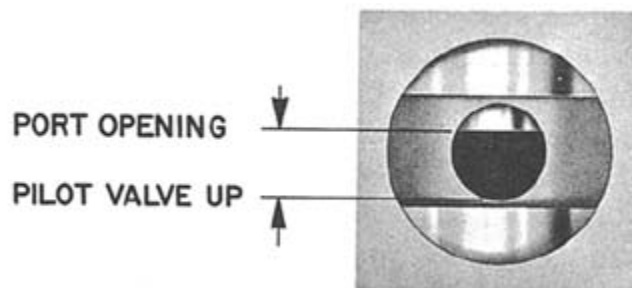

Figure 4-7. Port Opening, Pilot Valve Plunger Up
- c. Holding the pilot-valve plunger down against the flyweight toes, move the flyweights outward as far as they will go, and check the amount of port opening now appearing below the edge of the control land of the pilot valve plunger (see Figure 4-7).